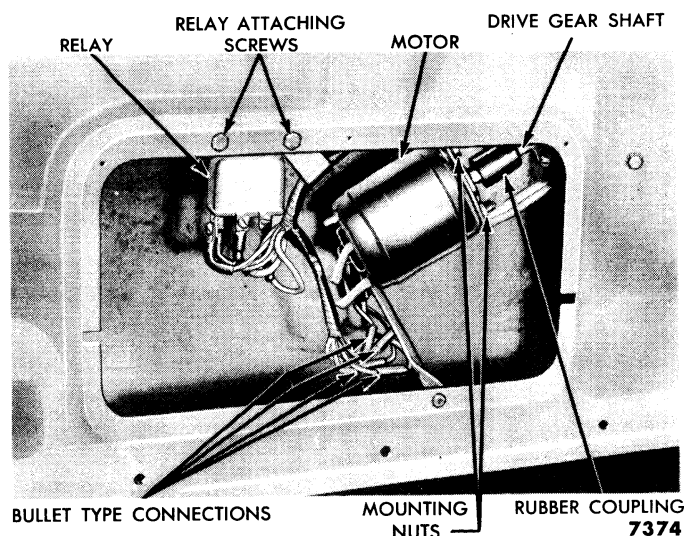

Fig. 3—Motor and Relay Replacement
(1) **MOTOR ASSEMBLY AND RELAY.** Disconnect the wires to the motor at the bullet connections (fig. 3). Disconnect the wires to the relay, remove the attaching screws, then remove the relay. The Convertible quarter window relay is mounted on the outside of the quarter panel forward of the access hole, the Victoria quarter window relay is mounted on the rear seat riser, and the relay on all other windows is mounted to the inner door or quarter panel just above the access hole.
On all except Convertible and Victoria quarter windows, remove the motor-to-panel brace (fig. 3).
(a) **ALL EXCEPT VICTORIA.** Disconnect the wires to the motor and relay, and remove the relay (fig. 3). Remove the motor-to-panel brace.